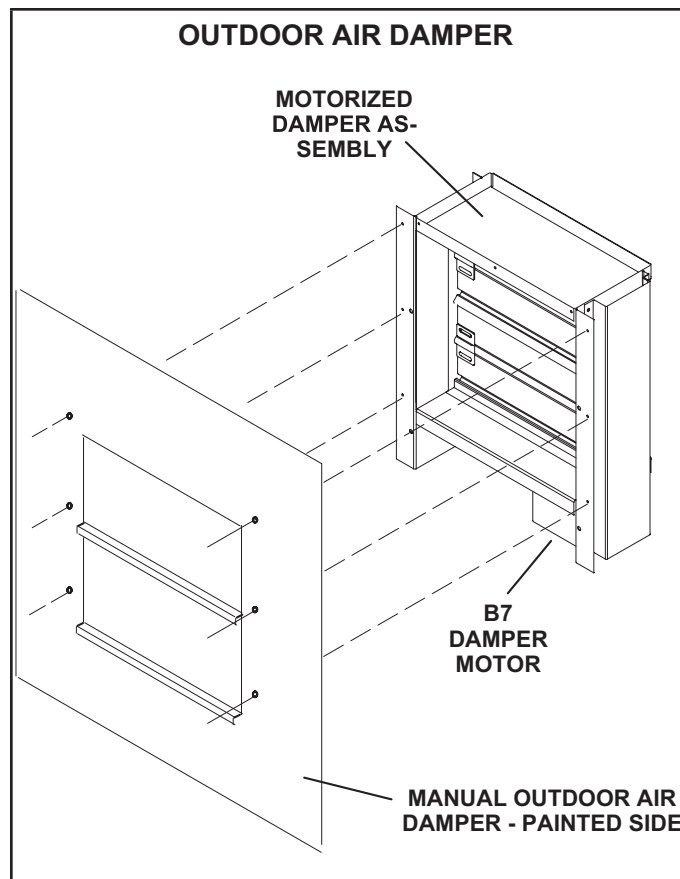

FIGURE 27
See Optional Accessories at the front of this manual (Table of Contents) for sizes per LGX units. Outdoor air dampers may be manually or motor (M) operated to allow up to 25 percent outside air into the system at all times. See FIGURE 27. The washable filters supplied with the outdoor air dampers can be cleaned with water and a mild detergent. It should be sprayed with Filter Handicoater when dry prior to reinstallation. Filter Handicoater is R.P. Products coating no. 418 and is available as Part No. P-8-5069.